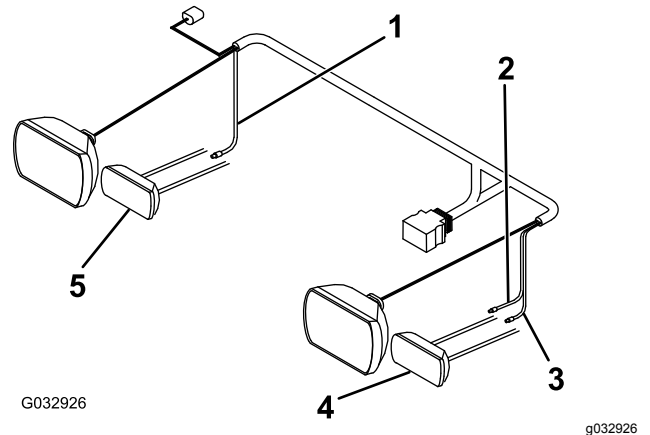

Figure 16
- Connect the pink wire from the long wire harness to the right turn signal wire using a splice connector (Figure 16).
- Connect the violet wire from the long wire harness to the left turn signal wire using a splice connector (Figure 16).
- Connect the yellow wire from the long wire harness to the left park light wire using a splice connector (Figure 16).